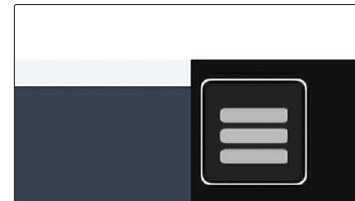

Figure 6
1. Scroll to the bottom of the screen and click the **MDI Configuration Menu**  button in the bottom-right corner to open the MDI Configuration interface. See *Figure 6*.